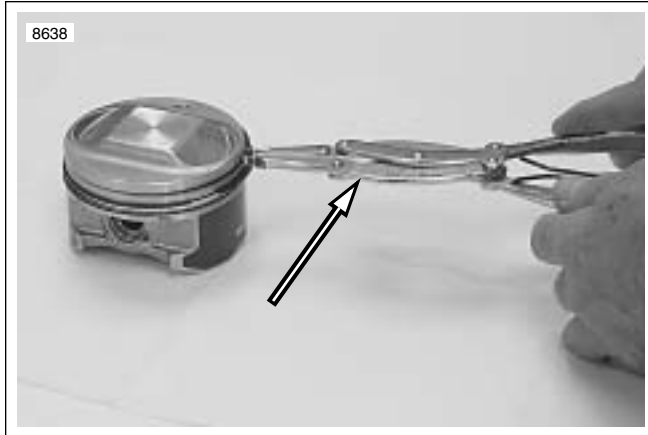

Figure 3-94. Installing Piston Rings Transmission Shaft Retaining Ring Pliers (Part No. J-5586)
2. See Figure 3-94. Apply engine oil to piston grooves. Use TRANSMISSION SHAFT RETAINING RING PLIERS (Part No. J-5586) to slip compression rings over piston into their respective grooves. Be extremely careful not to over expand, twist rings or damage piston surface when installing rings.